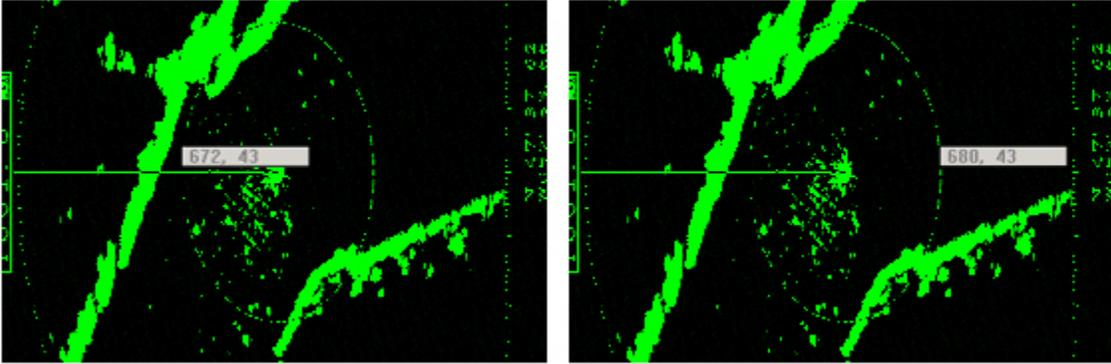

Figure 10-16 - Circle Coordinates - Left & Right
- Once a circle has been found, use the cursor to find coordinates for the top, bottom, left, and right edges (see *Figure 10-15 - Circle Coordinates - Top & Bottom* and *Figure 10-16 - Circle Coordinates - Left & Right*).